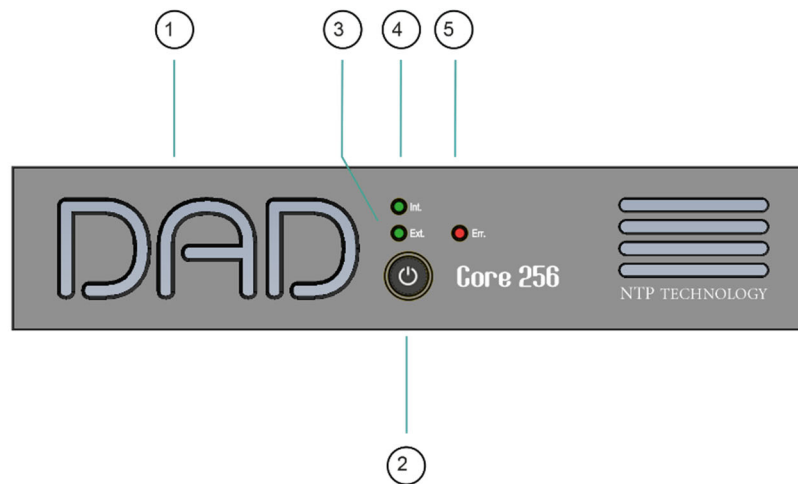

Figure 6, Front panel layout
5. Configuration can be done on the parameters shown in figure 6.